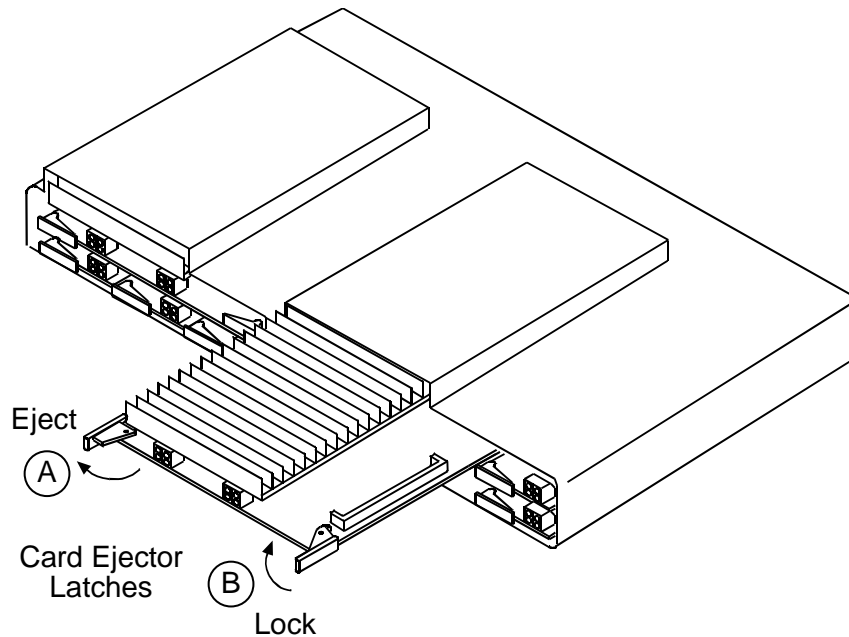

Figure 16-4. Installing and Removing Controller Card
NOTE: The example in Figure 16-4 shows installation and removal of Controller B.
3. Press standby Controller card ejector latches toward outside of card until card connector releases from backplane connector (see A in Figure 16-4).
6. Straighten card ejector latches (see A in Figure 16-4), position new Controller card in guide rails, and carefully slide into old Controller card slot.
7. Press card ejector latches in toward center of card (see B in Figure 16-4) until card connector mates with backplane connector.